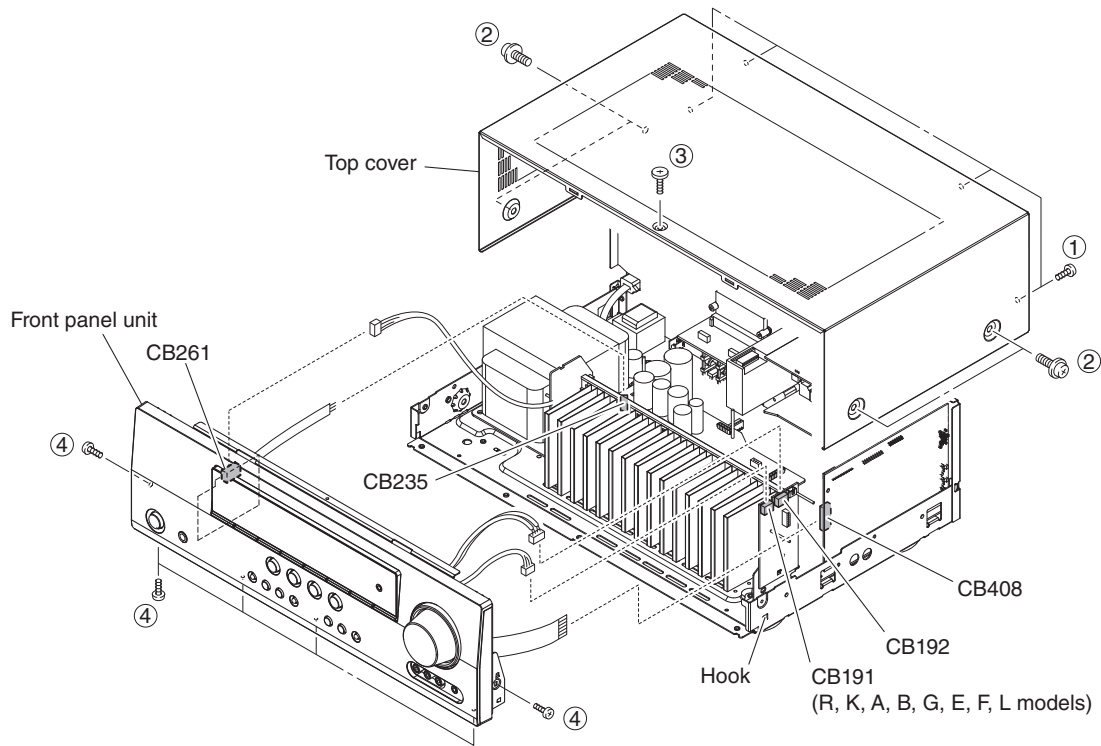

Fig. 1
- a. Remove 4 screws ( ① ), 4 screws ( ② ) and screw ( ③ ). (Fig. 1)
- b. Slide the top cover rearward to remove it. (Fig. 1)
- a. Remove 6 screws ( ④ ). (Fig. 1)
- b. Remove CB191 (R, K, A, B, G, E, F, L models), CB192, CB261 and CB408. (Fig. 1)
- c. Unlock and remove CB235. (Fig. 1)
- d. Release hook and then remove the front panel unit. (Fig. 1)